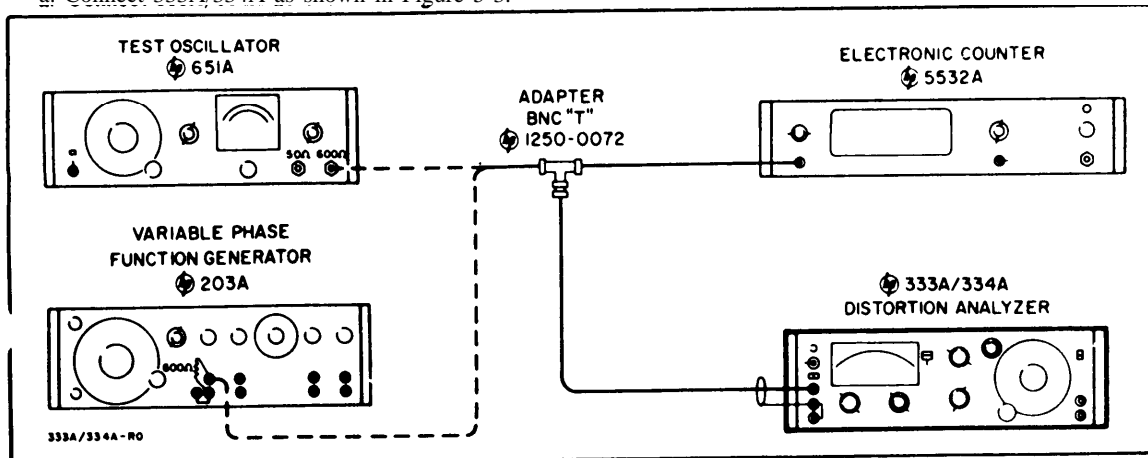

Figure 5-3. Test Setup for Frequency Calibration Accuracy Check
a. Connect 333A/334A as shown in Figure 5-3.